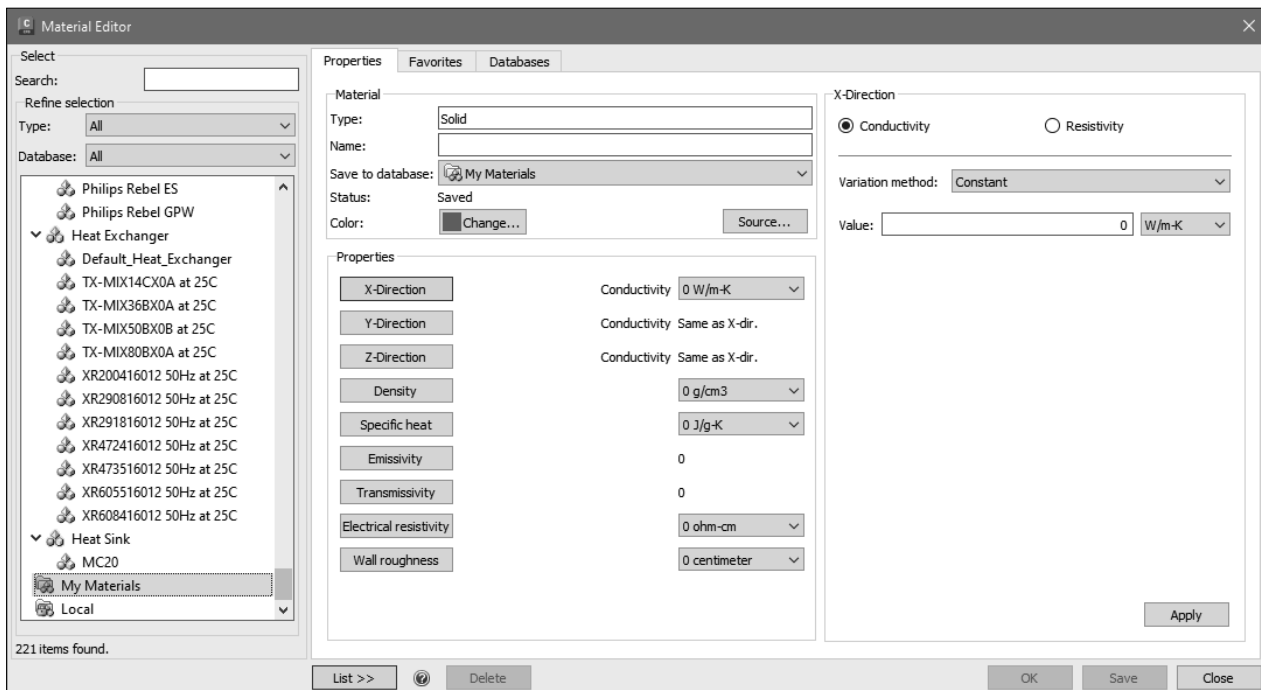

Figure-19. Specifying properties of new material
- Click on desired material type. The **Properties** tab will be displayed; refer to Figure-19.